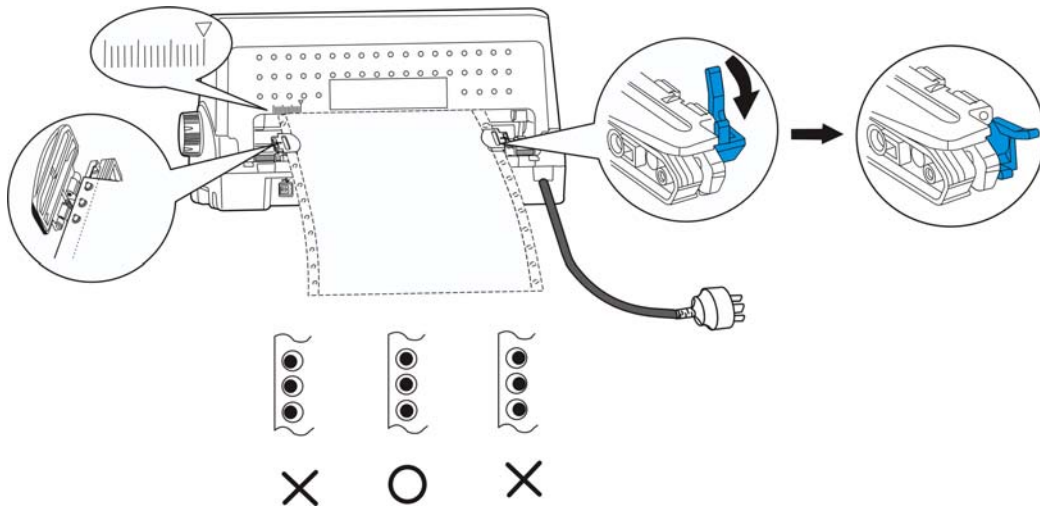

Figure 3-10 Adjust the position of the tractor paper
5. Close the right and left tractor sprocket covers, and then move the right tractor to make sure the tractor paper is smooth enough. Then push down the right tractor sprocket lock lever to lock the tractor as shown in Figure 3-10.